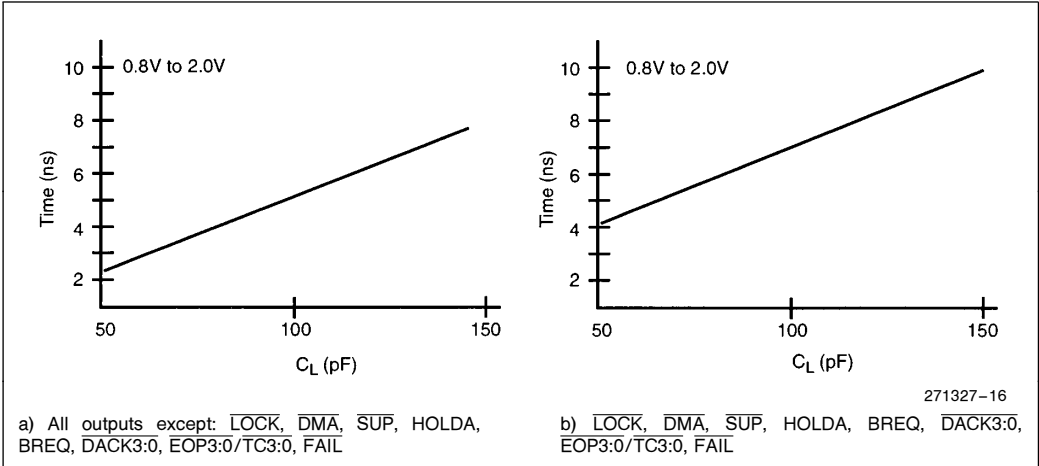

Figure 16. Rise and Fall Time Derating at Highest Operating Temperature and Minimum VCC
- See Figure 16 for capacitive derating information for output delays and hold times.